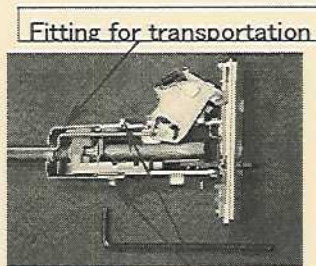

Fig. 10 Mounting screw
4)-2. Remove the fitting for transportation from the drawout indicator unit. (Fig. 10, Fig. 11)